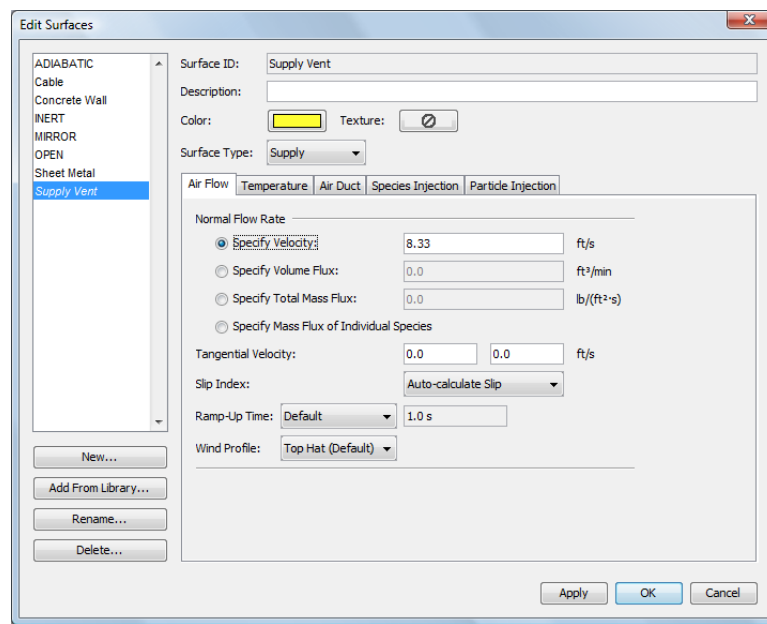

Figure 7.17. Creating the supply vent surface
3. On the **Air Flow** tab, click **Specify Velocity** and type 8 . 33 ft/s, Figure 7.17. This corresponds to 2000 CFM flow through a 2'x2' duct.